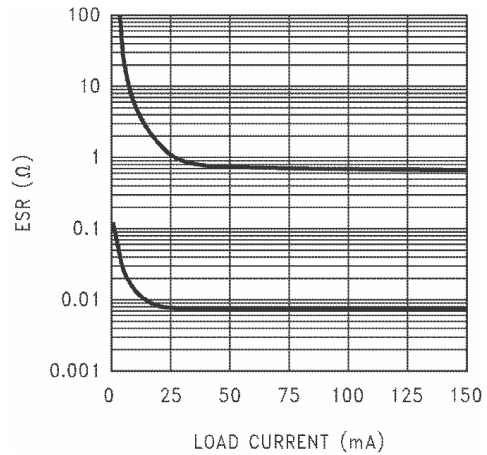

Figure 6-18. 2.2- μF Stable ESR Range for Output Voltage $\leq 2.3 \text{ V}$
- ESR range: see Figure 6-18 through Figure 6-20